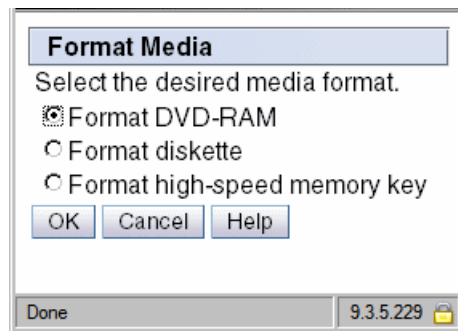

Figure 12-15 Service Management, Format Media
1. Select **Format Media**. The window shown in Figure 12-15 opens.